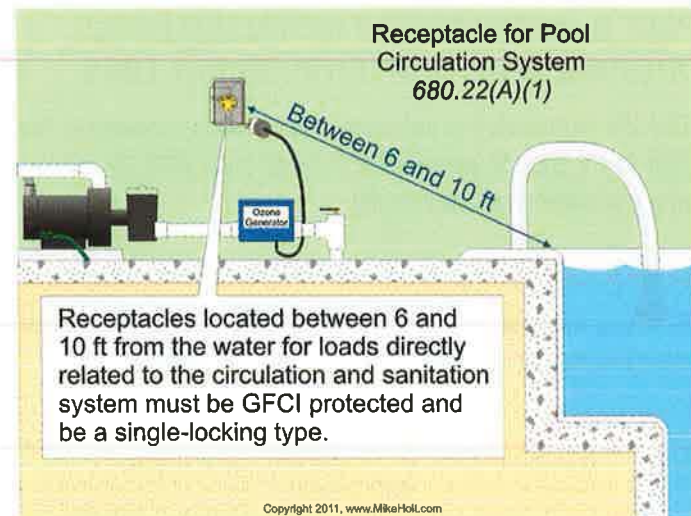

Figure 680-14
(1) **Circulation System.** Receptacles for a permanently installed pool, outdoor spa, and outdoor hot tub motors, or other loads directly related to the circulation system must be located not less than 10 ft from the inside walls of a permanently installed pool, outdoor spa, or outdoor hot tub, or not less than 6 ft from the inside walls of a permanently installed pool, outdoor spa, or outdoor hot tub if they meet all of the following conditions: **Figure 680-14**